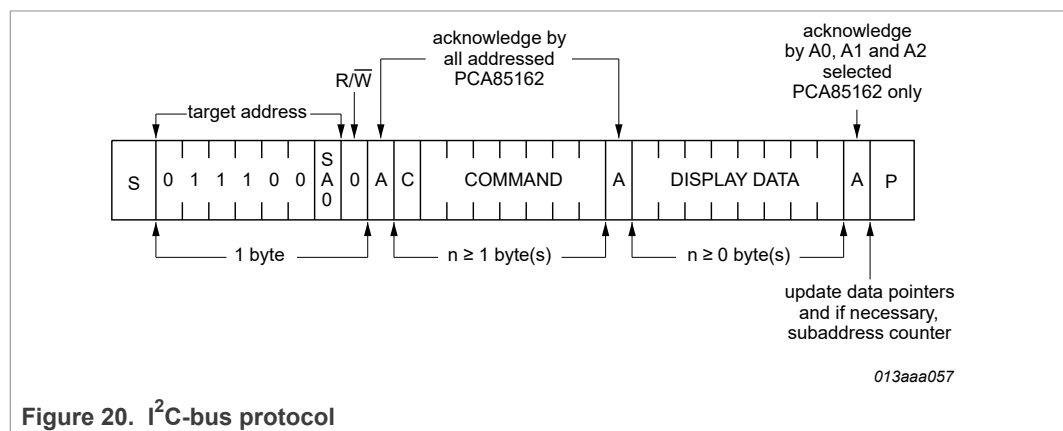

Figure 20. I²C-bus protocol
The I²C-bus protocol is shown in Figure 20. The sequence is initiated with a START condition (S) from the I²C-bus controller which is followed by one of the two possible PCA85162 target addresses available. All PCA85162 whose SA0 inputs correspond to bit 0 of the target address respond by asserting an acknowledge in parallel. This I²C-bus transfer is ignored by all PCA85162 whose SA0 inputs are set to the alternative level.